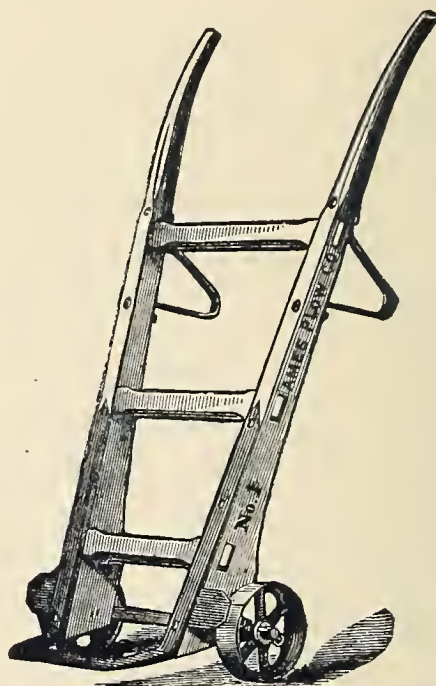
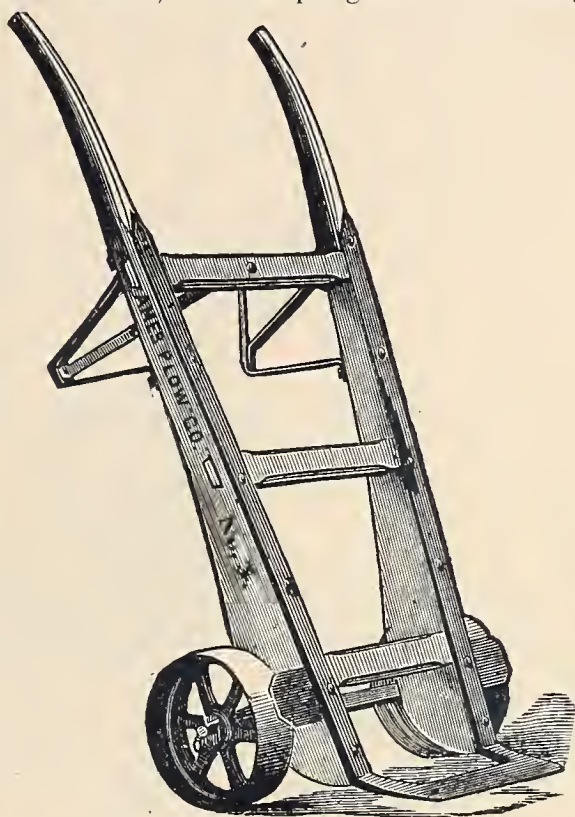

Fig. 501. — Ames Store-Truck (Outside Wheel).
Fig. 502.—Ames Store-Truck (Heavy).
*The Ames Outside-Wheel Store-Truck* has a large demand. *Fig. 501* represents the smaller sizes, Nos. 0, 1, and 2, for general store use. *Fig. 502* represents the larger sizes, Nos. 3, 4, 5, and 6, which are additionally braced, and the iron-work